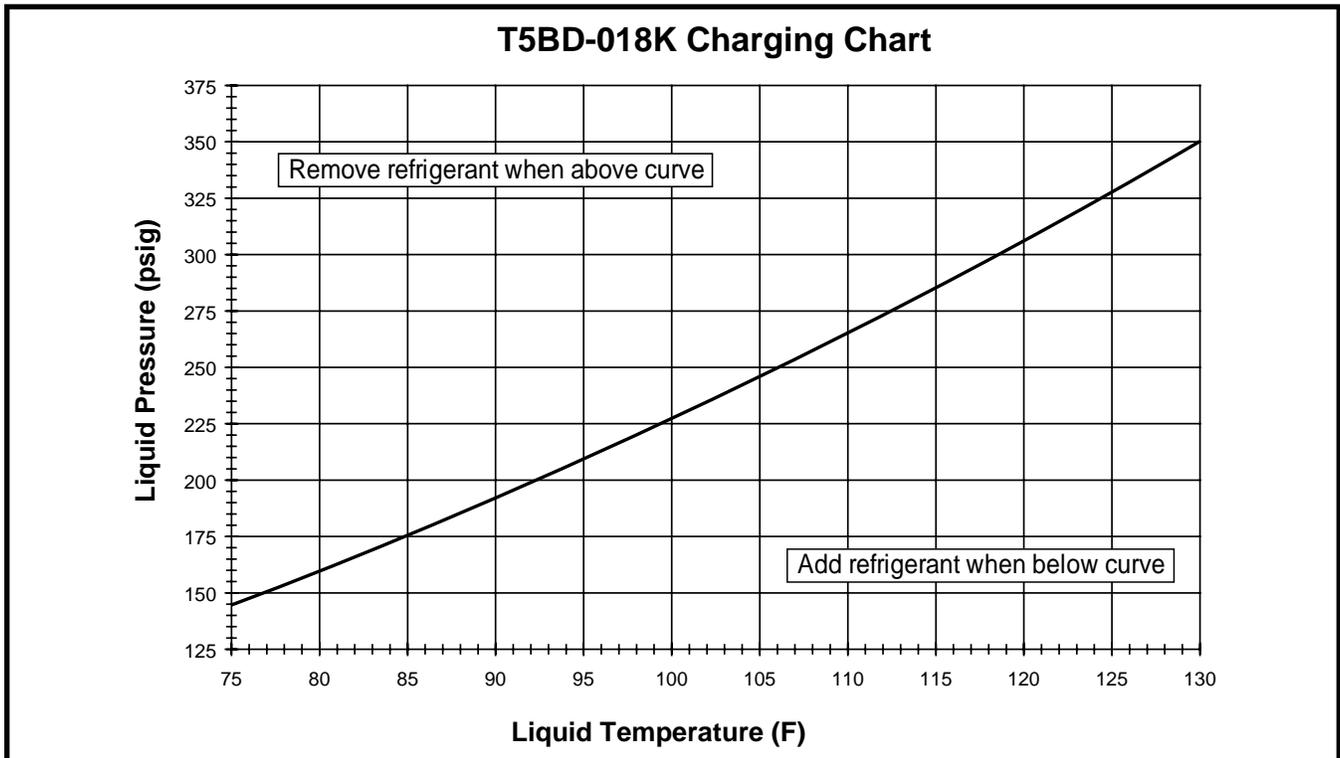

Figure 5. Charging Chart for 1.5 Ton Units
- Refrigerant charging charts are applicable only to matched assemblies of NORDYNE equipment and listed airflows for the indoor coil. Refer to Figures 5 - 11 (pages 11 - 14) and Tables 3 - 9 (pages 15 - 18) for correct system charging.